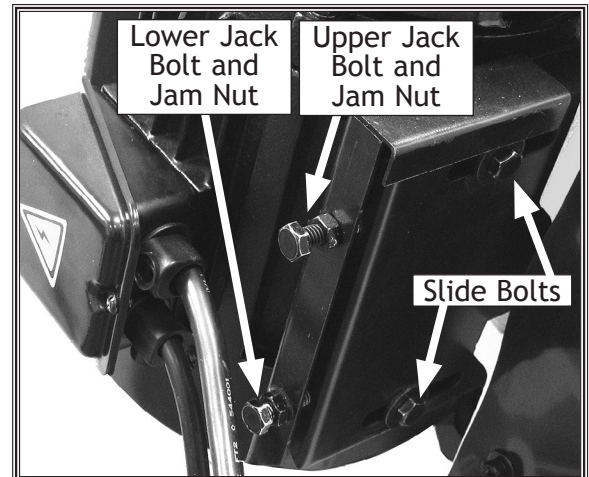

Figure 27. Belt adjustment mechanism.
3. Use a 12mm wrench and loosen the two slide bolts and both jack-bolt and jam nuts shown in **Figure 27**.